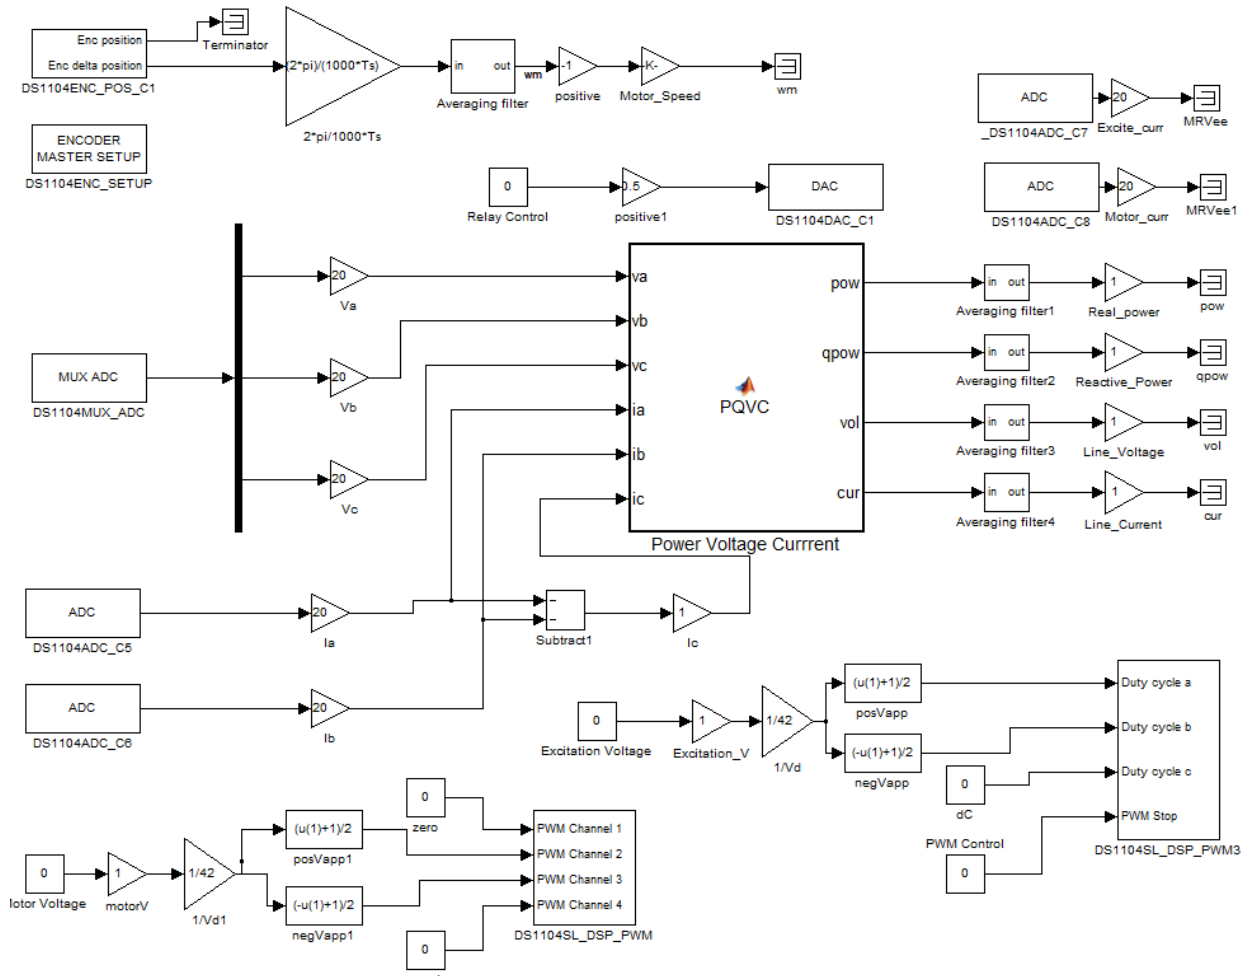

Figure 1: Simulink model for Lab 6
The Simulink model (lab_6.mdl) is provided in order to capture generated voltages, currents, real power, and reactive power. It will also control the rotor excitation current, prime mover voltage, and grid connection board relay. Figure 1 shows what the model should look like.
- Now, turn on the grid power box. You must be able to see still sine waves of phases A and B of the grid on the oscilloscope. Make sure that the DC regulated power supply is set to 42V. Also, set the current supply of the power supply to maximum value. Turn on the power supply. Begin to increase the speed of the prime mover (Motor_V) in dSPACE and confirm that the speed is being read into dSPACE as positive. (If this is not the case, make sure that the inverter gain is placed in-line with the velocity data collection in the Simulink model as shown in figure 1.) While the motor & generator are spinning, the RPM meter in the layout should indicate how fast the motor/generator set are spinning. Increase to 1800 RPM. Next, increase the excitation voltage that is connected to the generator's rotor to roughly 3V. Check the oscilloscope and make sure that you see the phase A sinusoid generated by the DFIG. You should also be able to see phase B generated by the DFIG, but we will concentrate on phase A in the next section.